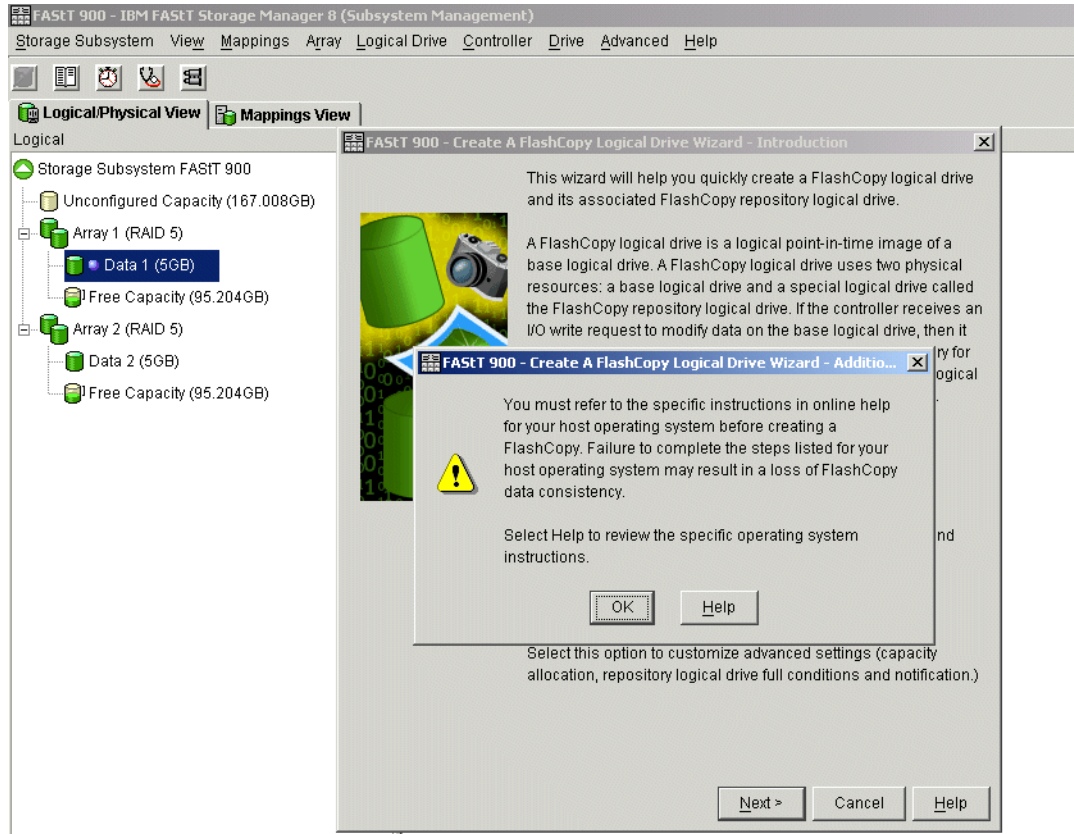

Figure 7-10 Create FlashCopy Logical Drive Wizard startup
The Create FlashCopy Logical Drive Wizard begins as shown in Figure 7-10 on page 206.
- a. Review the information on the initial window as shown in Figure 7-10. Click **OK** to proceed to the wizard introduction window.